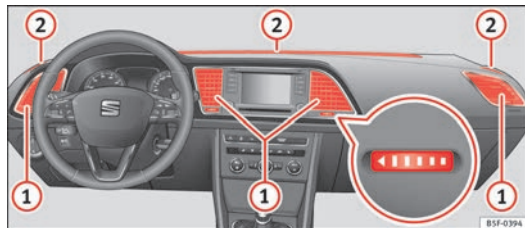

Fig. 119 On the dash panel: air vents
To ensure proper heating, cooling and ventilation in the vehicle interior, air vents ⇒ Fig. 119 ① should remain open.